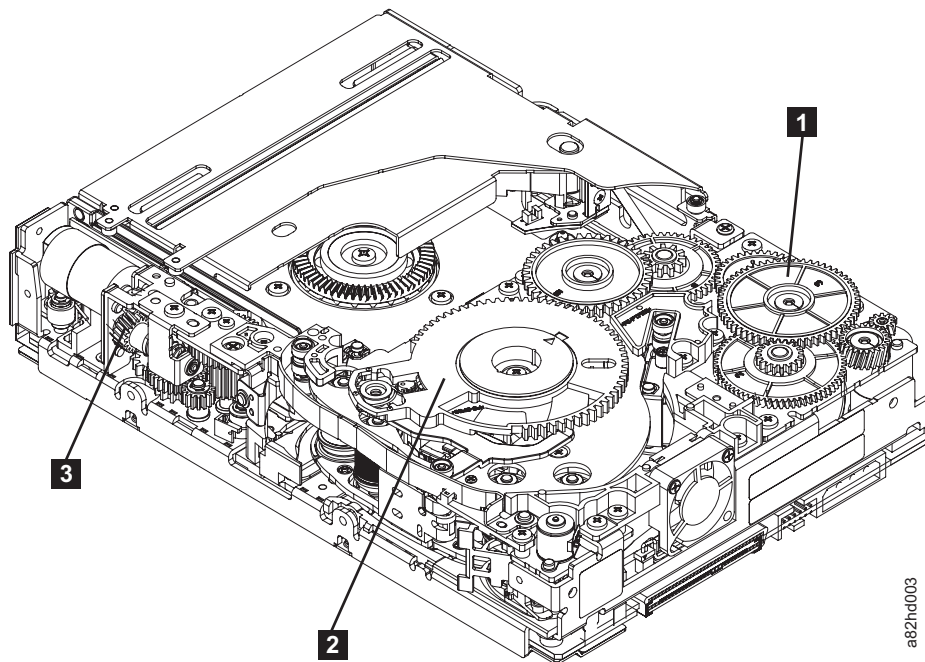

Figure C-4. Drive with cover removed to reveal gear train.
4. Locate the threader intermediate gear ( **1** in Figure C-4 on page C-5) near the rear of the drive. You can use your finger to rotate the threader intermediate gear ( **1** in Figure C-4 on page C-5) and slowly rotate the threader mechanism gear ( **2** in Figure C-4 on page C-5) clockwise.
5. As the leader pin is secured in the cartridge, you should hear the leader pin retention spring clips click into place. If you do not hear the click, continue rolling until the threader intermediate gear ( **1** in Figure C-4 on page C-5) stops. The LBA is in the correct position.
6. Rotate the loader motor worm gear ( **3** in Figure C-4 on page C-5) clockwise as viewed from the front of the drive until it stops. This releases the LBA leader pin.
7. Rotate the threader intermediate gear ( **1** in Figure C-4 on page C-5) counterclockwise until the leader block is in front of the Read/Write head. This moves the LBA out of the cartridge.
8. Rotate the loader motor worm gear ( **3** in Figure C-4 on page C-5) counterclockwise as viewed from the front of the drive until it stops.